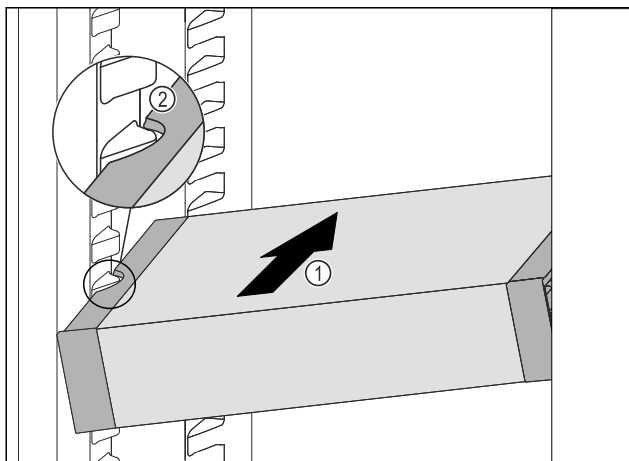

Fig. 107
- Insert the VarioSafe into the fridge section at an angle *Fig. 107 (1)* until the recesses in the side *Fig. 107 (2)* of the VarioSafe are at the level of the support rib in the fridge section.